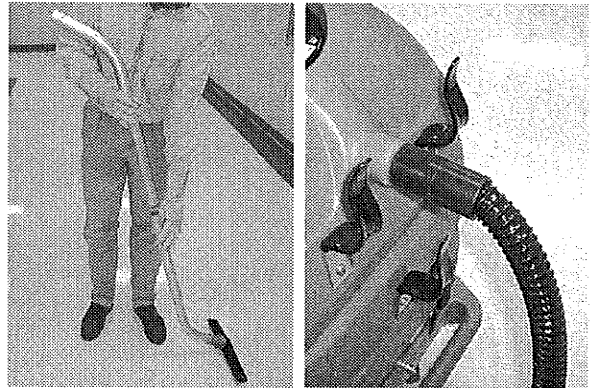

FIG. 24
5. Assemble the double-bend wand, attach squeegee tool and connect wand to black recovery hose. Connect black recovery hose at front of machine (Figure 24).